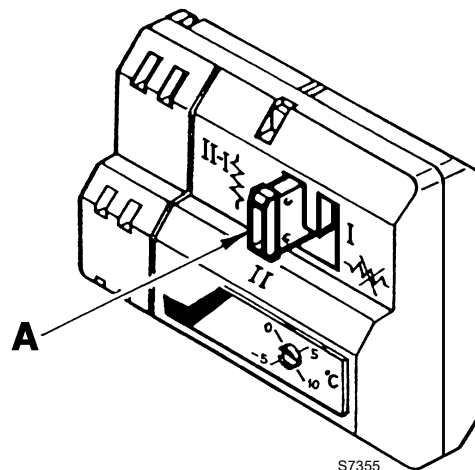

Fig. 27
This electronic start delaying device (Fig. 27) can be wired to a 2nd stage thermostat; in this case it performs two functions:
- 2 In relation of the position of the plug **A** (Fig. 27), it determines the type of required operation: